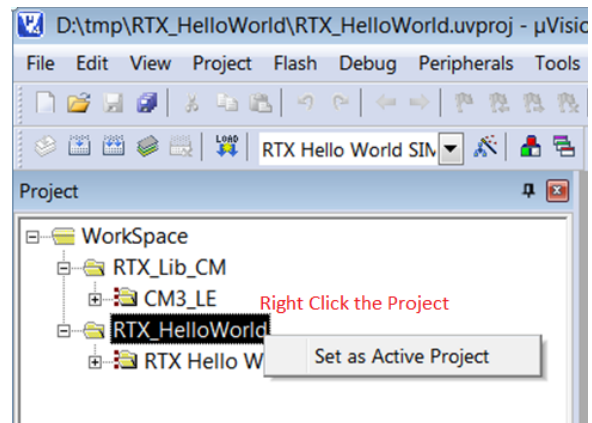

Figure 1.25: Keil IDE: Set an Active Project
1. Activate the `RTX_HelloWorld` project by highlighting the project name and right click. Then click the Set as Active Project (see Figure 1.25).